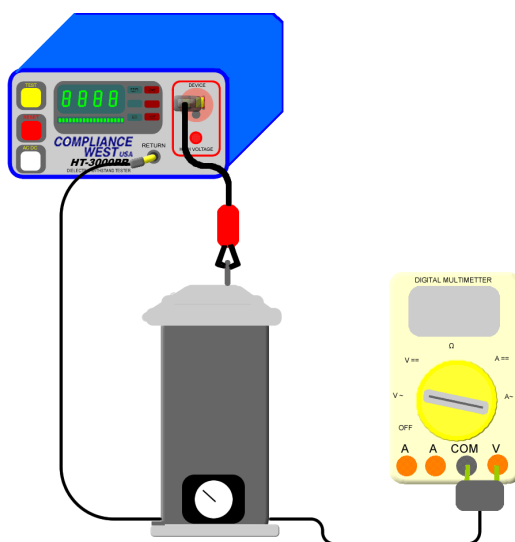

Figure 7. Voltage Measurement with 1000:1 High Voltage Probe
4. Set up a 1000:1 probe with the volt meter has is shown on Figure 7.
2. Set up a 1000:1 probe with the volt meter has is shown on Figure 7.